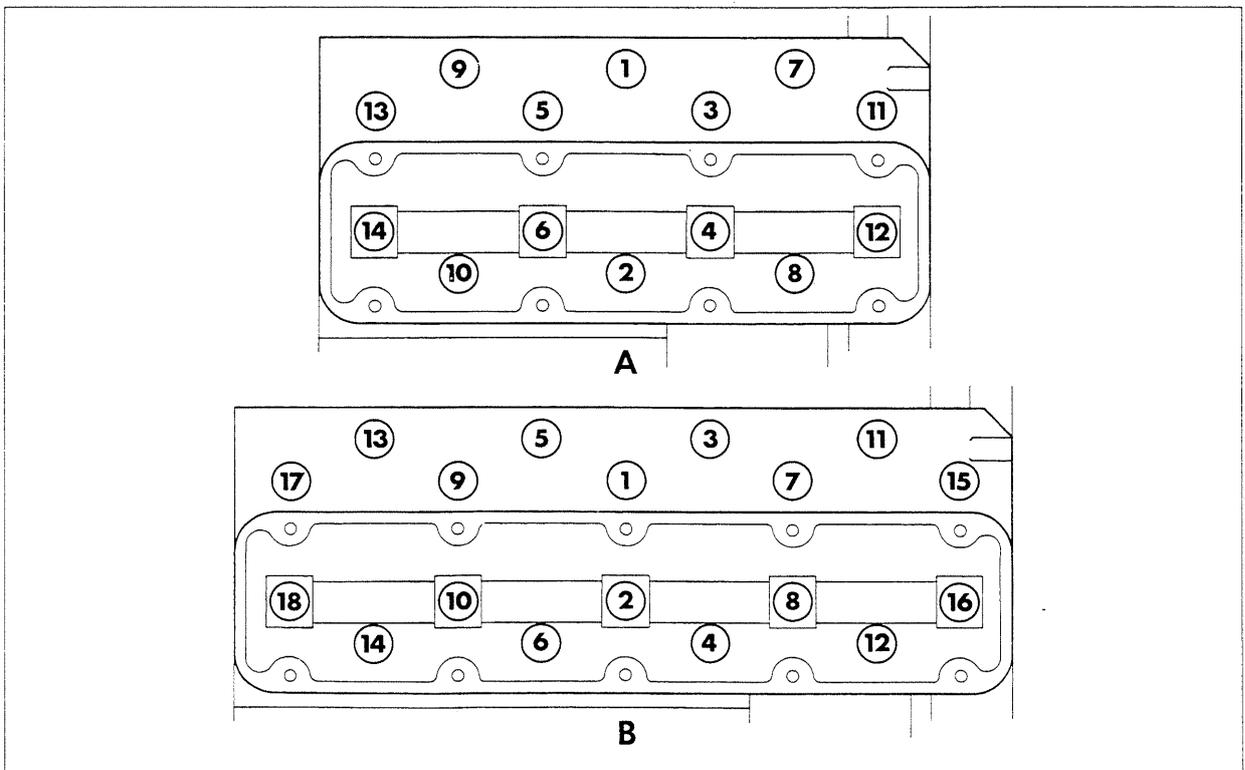

Figure 17
- Ensure washers are installed under the heads of the cylinder head retaining bolts. Tighten the cylinder head bolts in the sequence shown in Figure 17, and progressively in three steps as follows: